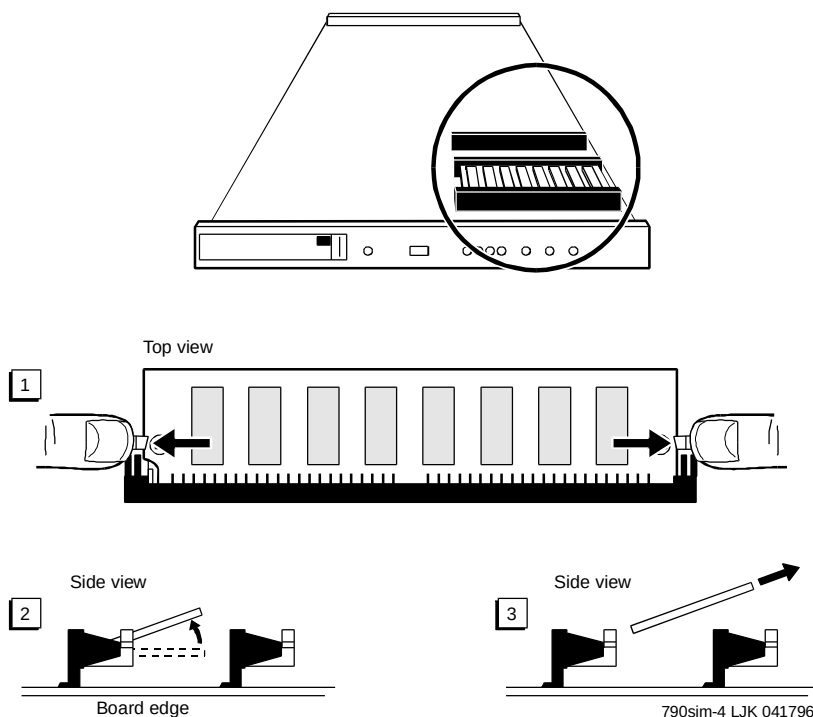

Figure 12-84. Removing a SIMM from its Socket
2. Carefully press the spring-loaded clips, located at each end of the SIMM socket, away from the SIMM. The SIMM will reposition itself at an angle when both clips are released. See Figure 12-84.